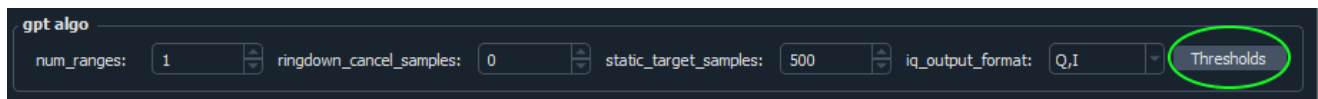

Figure 3. ICU-x0201 GPT Configuration Utility gpt algo Panel
5. In the **gpt algo** panel (see **Figure 3. ICU-x0201 GPT Configuration Utility gpt algo Panel**), set the number of ranges (targets) and the ringdown and static target filter sample counts. (In the Hello Chirp application, the `iq_output_format` setting will be overwritten based on whether amplitude or I/Q data output is configured in `app_config.h`. So, it can be left as the default Q,I.) Click on the **Thresholds** button to open and modify the target detection thresholds.